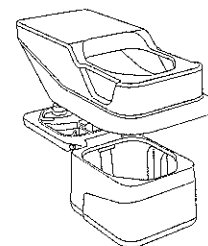

Figure 2. Place Transfer Shield
2. With the aseptic housing chamber open, place the transfer shield onto the aseptic housing and over its chamber (see figure 2).